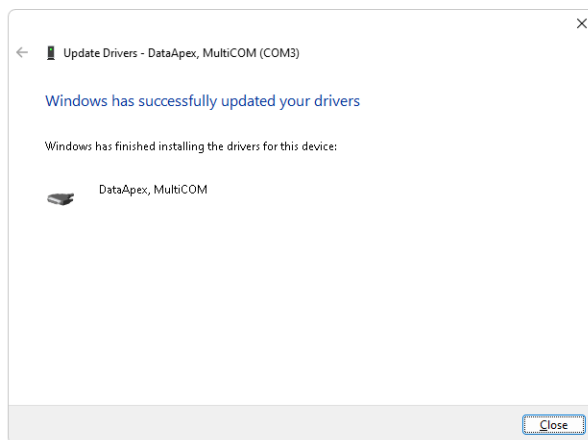

Fig. 10: Successful reinstallation of a MultiCOM driver.
- Upon successful reinstallation of drivers for **MultiCOM** you will be presented with dialog as seen in **Fig. 10** on pg. 10.